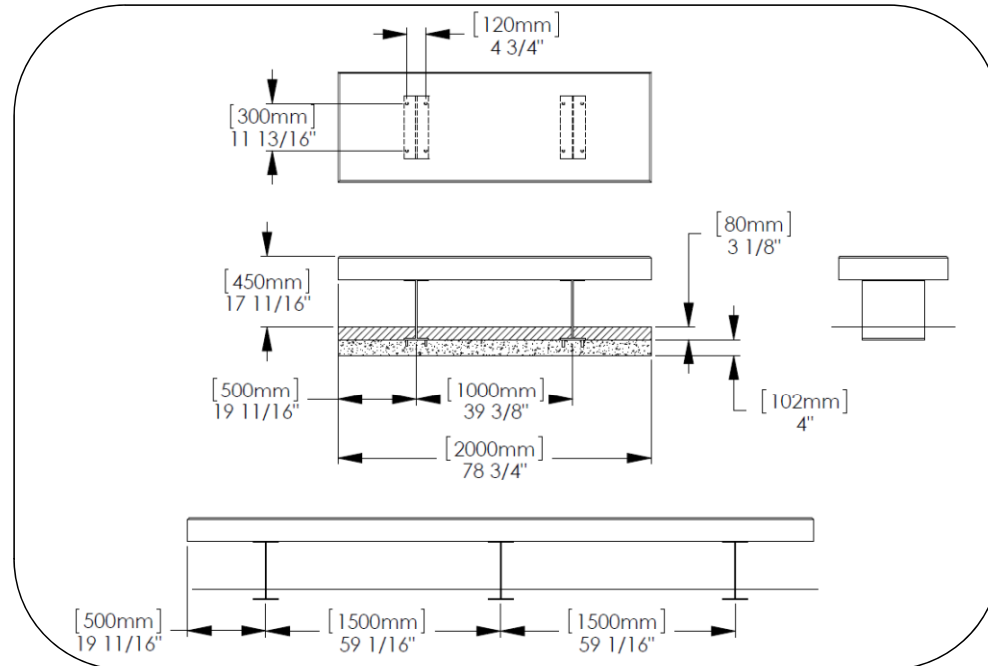

Fig. 2 – concrete footing details
4. Drill holes according to Fig. 2. Clear holes of debris.